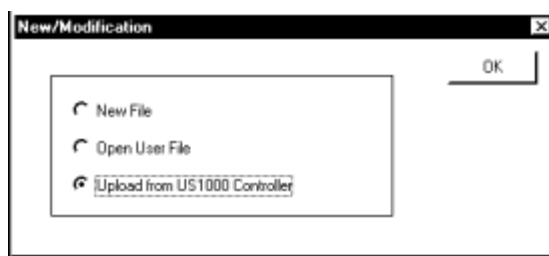

Figure 3.1.1 “New/Modification” Dialog Box
- (1) In the Start menu of Windows, click <Program>, and then <LL1100>.
- (2) The LL1100 tool starts up and [New/Modification] dialog box (Figure 3.1.1) appears.